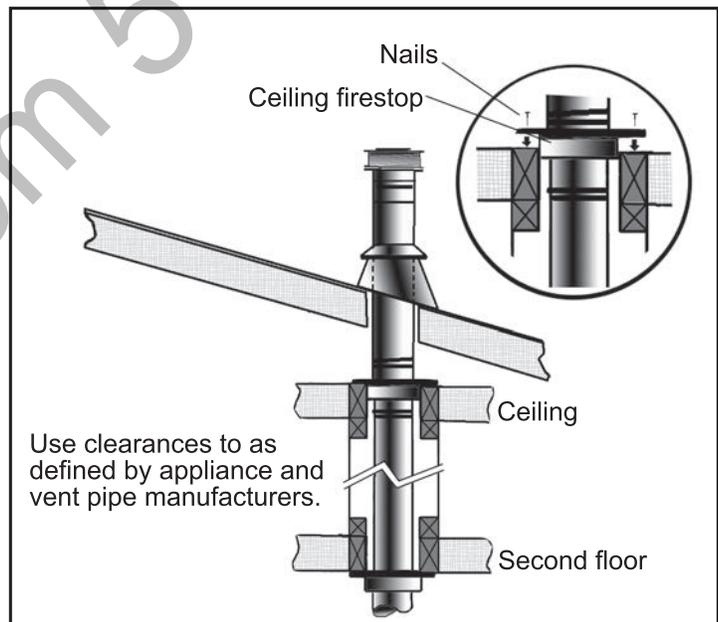

**Figure 55: Use of Wall Straps.**
- (1) If an offset is necessary in the attic to avoid obstructions, it is important to support the vent pipe every **3' (914 mm)**, to avoid excessive stress on the elbows, and possible separation. Wall straps are available for this purpose (see Figure 55).
- (2) When ever possible, use 45° degree elbows instead of 90° degree elbows. The 45° degree elbow offers less restriction to the flow of flue gases and intake air.